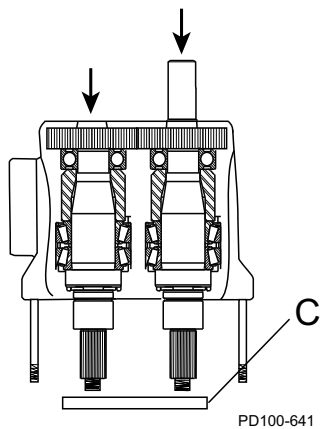

Figure 272 - Press Shafts from Gear Case
5. Place the gear case on an arbor press with the liquid end facing down. Protect the shaft ends with a wood or plastic block (Figure 272, item C) and press the shafts out of the gear case.